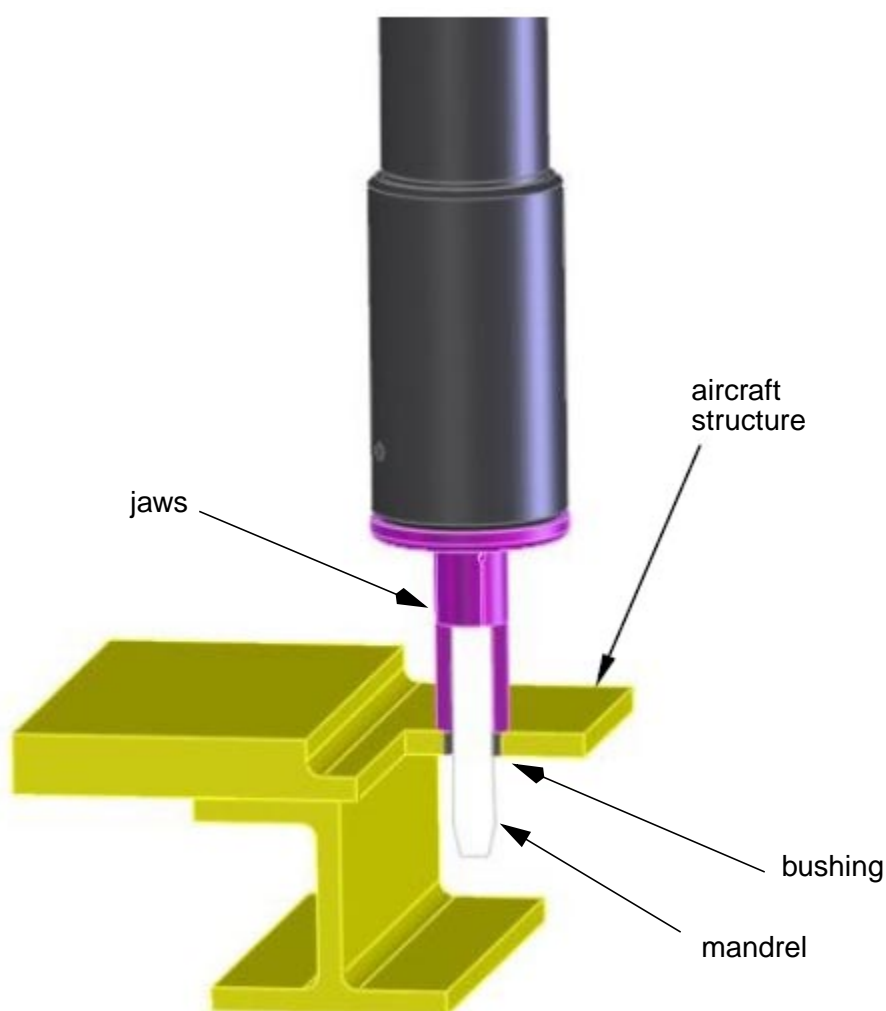

Figure 9 - Installation of DSC 586, DSC 587 & DSC 588 Bushings
5.4.5.1 Install DSC 586, DSC 587 and DSC 588 bushings as follows (see Figure 9):